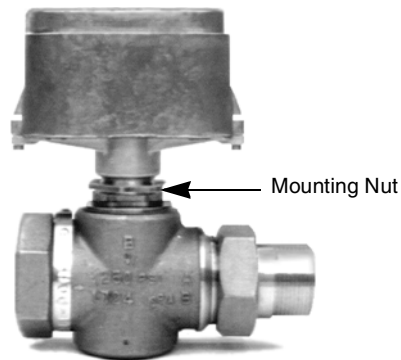

Figure-1 Actuator Assembled to Valve Body with Linkage.
1. Position actuator assembly over valve stem and spring and secure with mounting nut. (See Figure-1.)
1. Loosen mounting nut. (See Figure-1.)
14. The actuator is now assembled. (See Figure-1.)